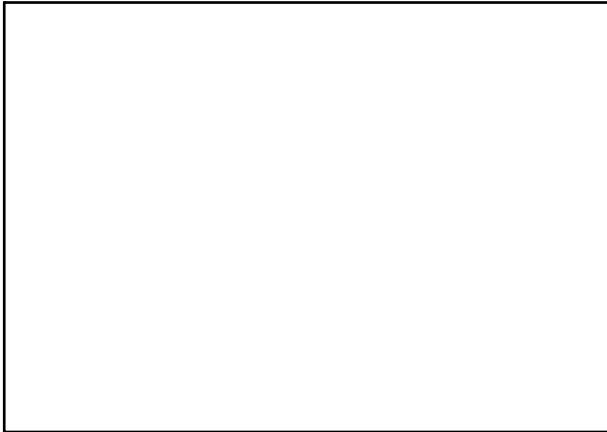

Fig. 7
- Check the filter paper with a filament lamp (Fig. 7). Any damage is indicated by a bright light shining through. Replace damaged filter elements immediately.